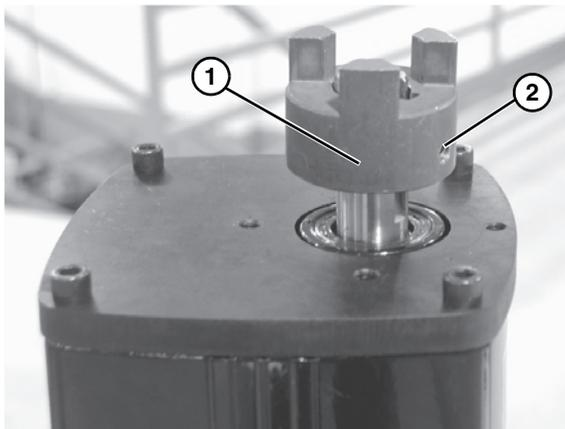

Figure 12
9. Install 3 jaw coupling (**Figure 12, item 1**) and tighten set screw (**Figure 12, item 2**) to 45 in-lbs (5 N-m).